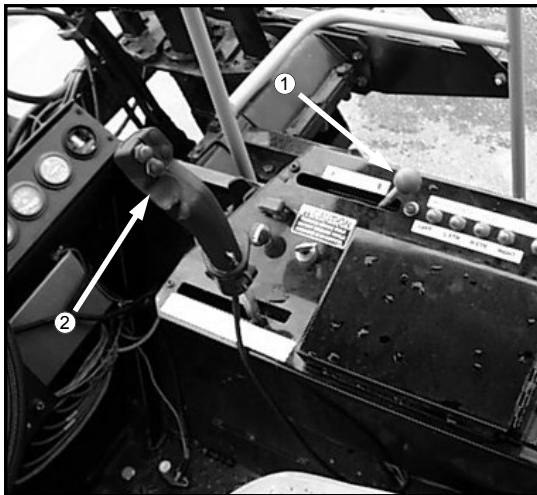

FIG 5.1
1. Open the throttle (fig. 5.1, item 1) slowly to the maximum recommended engine speed setting.
2. To move forward, slowly push the hydrostatic control lever (fig. 5.1, item 2) forward. The farther the control lever is moved, the faster the detasseler will travel. To stop, slowly pull the lever to the “N” (neutral) position.